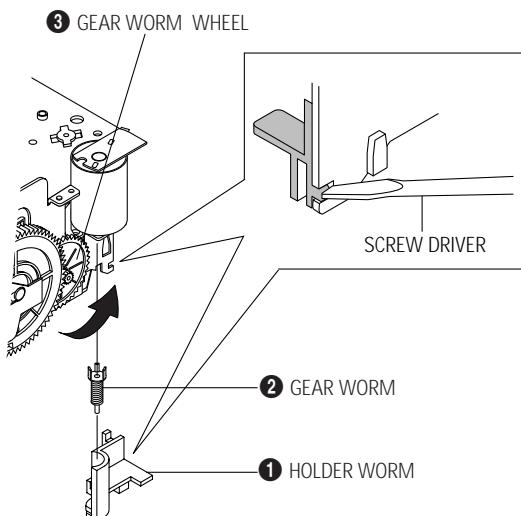

Fig. 2
- 1) Remove the Holder Worm ① and the gear worm ②. (See Fig. 2)
- 2) Turn the Gear Worm Wheel ③ counterclockwise in the direction of arrow with screw driver. (See Fig. 2)
(Refer to Fig. 2)